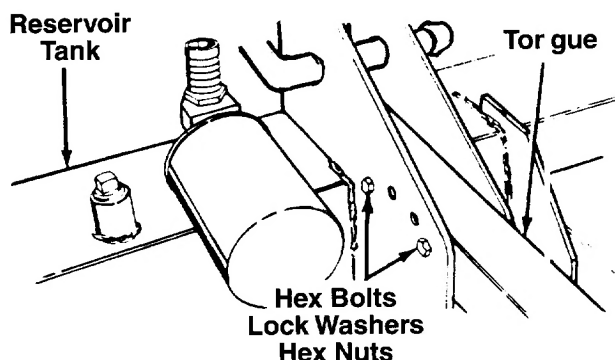

FIGURE 4.
2. Remove the two hex bolts, lock washers and hex nuts on the front of the reservoir tank. Two 9/16" wrenches are required. Place the tongue in position with jack stand facing down, and secure with hardware just removed. Remove the assembly from the blocks. See figure 4.